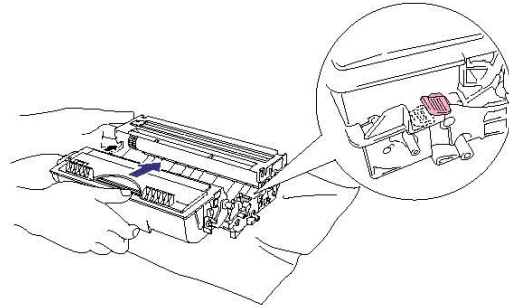

Fig. 5-2
- (4) Install the toner cartridge into the new drum unit until it locks into place, indicated by a click. When the toner cartridge is installed correctly, the lock lever is lifted automatically. (Fig. 5-2)
- (5) Install the new drum unit into the printer.